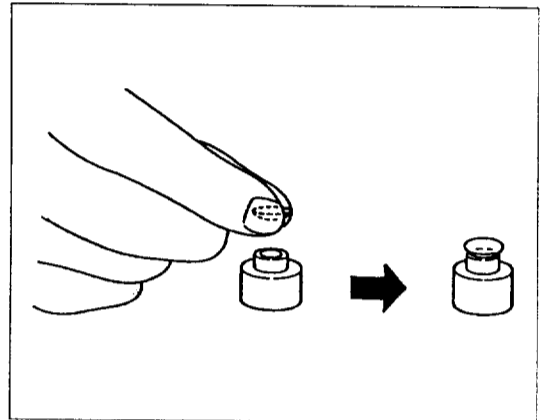

Figure 6-37
- (2) Place the hard contact lens on the holder (face the side to be measured toward the unit). (Figure 6-37)